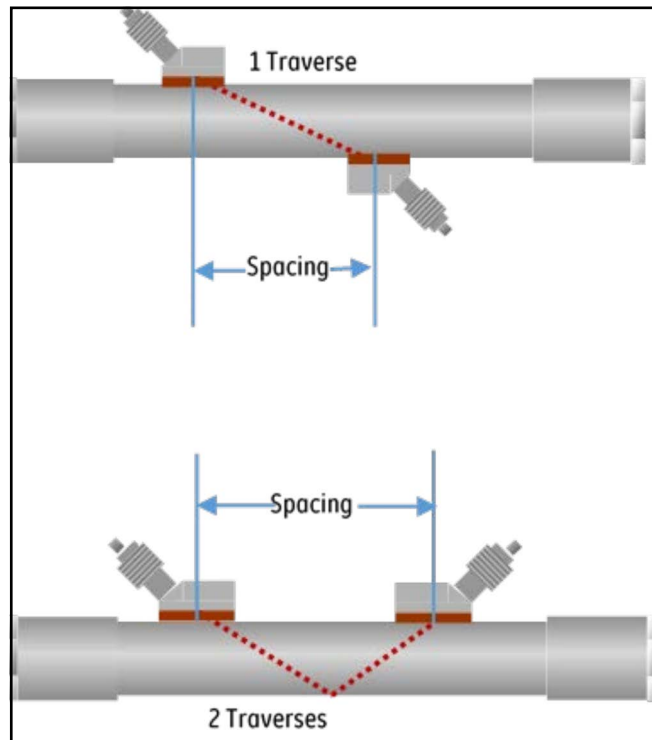

Figure 49: Spacing
3. The **[Spacing]** shows the value calculated by the XMT1000 for the correct distance between the upstream and downstream transducers, based on your programmed transducer, fluid and pipe data. This is the physical spacing value that should be used when installing your transducer clamping fixture on the pipe (see Figure 49). When exiting from the **[Channel x]** menu, the meter will display a message indicating that the Physical spacing of the transducers need to be adjusted to the value calculated by the XMT1000.